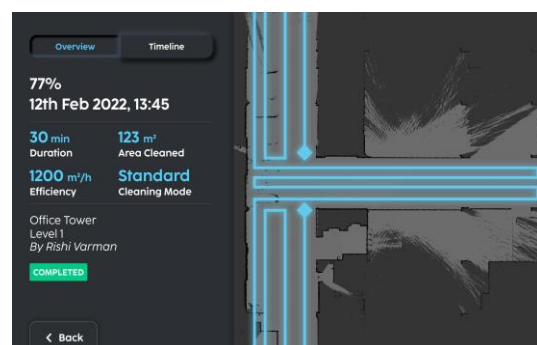

FIGURE 5-11
6. A cleaning report is generated after a zone is cleaned (Fig 5-11)